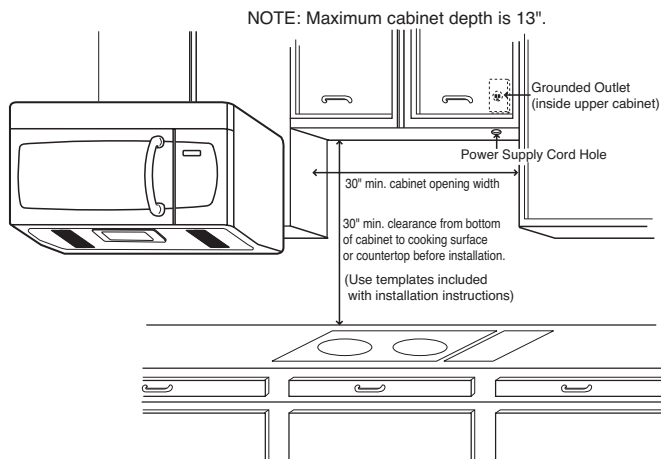

Figure 4
- **BE SURE** you have enough space. See Figure 4 below for minimum vertical and horizontal clearance.